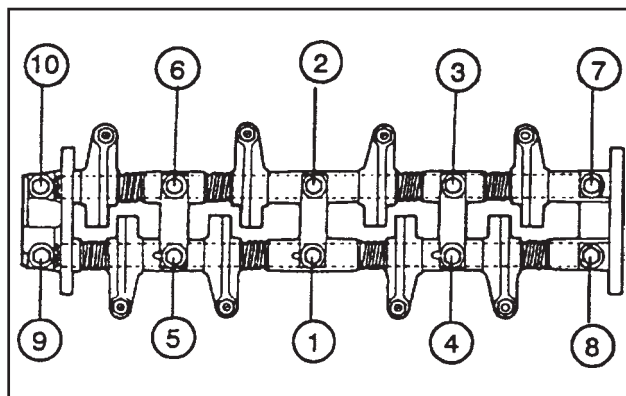

FIGURE 21. INSTALLATION OF THE ROCKER SHAFT ASSEMBLY
7. Tighten the capscrews for the rocker shaft supports to 18 to 26 N.m (180 to 270 kgf·cm) in the sequence shown in FIGURE 21.